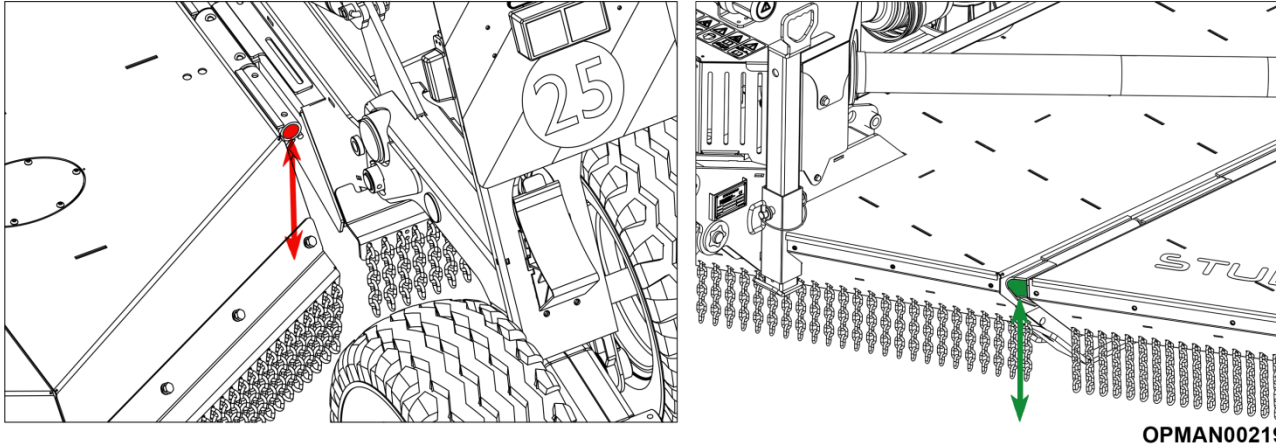

Figure 4.19 – Stubble Master 500/730 Front To Rear Machine Levelling
- 4.7.1.2 Measure from each end of the top of the hinge bar to the ground; see Figure 4.19 to determine the height of the front and rear of the machine.